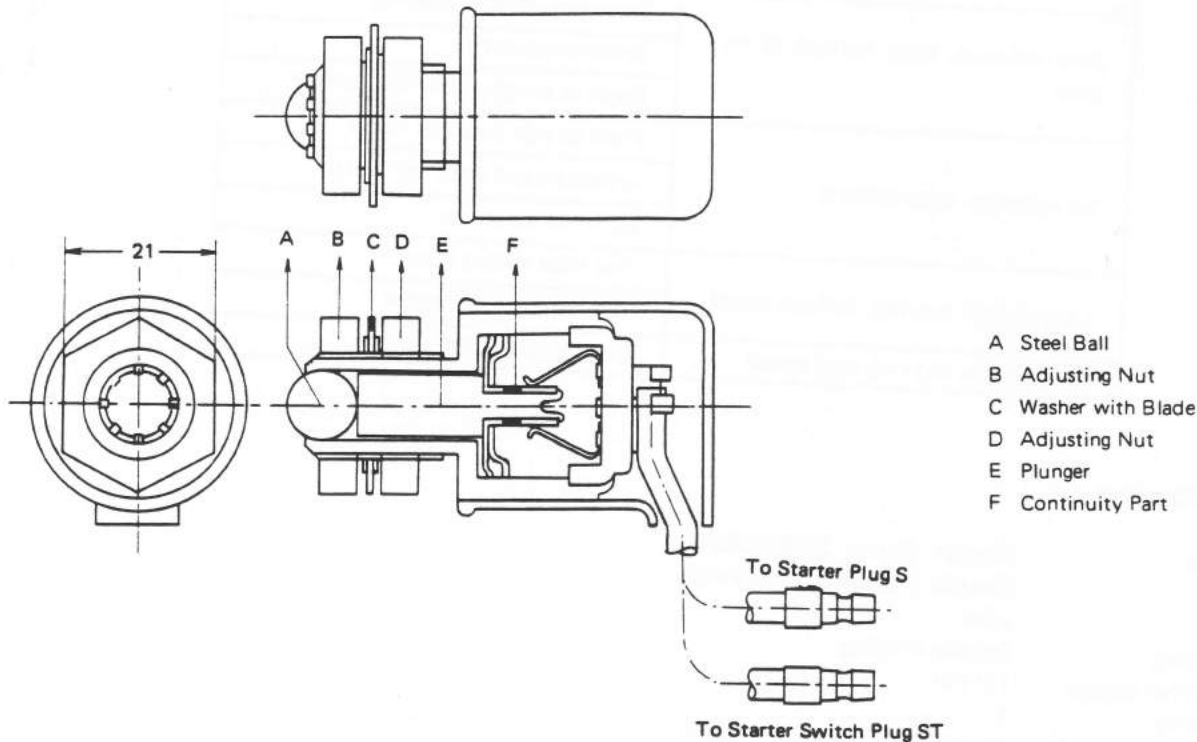
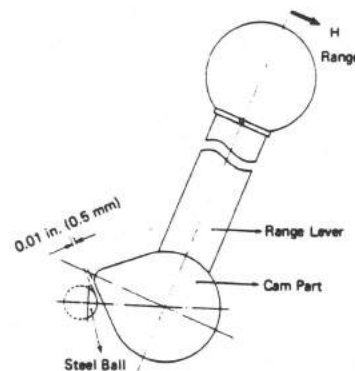

Fig. 26 Safety Switch
Fig. 27 Clearance
Adjust the adjusting nuts (B) and (D) in Fig. 26 with a special tool (1700T05 SAFETY SWITCH SPANNER) so that the clearance between the steel ball (C) and the cam (B) in Fig. 27 is 0.01 in. (0.5 mm).